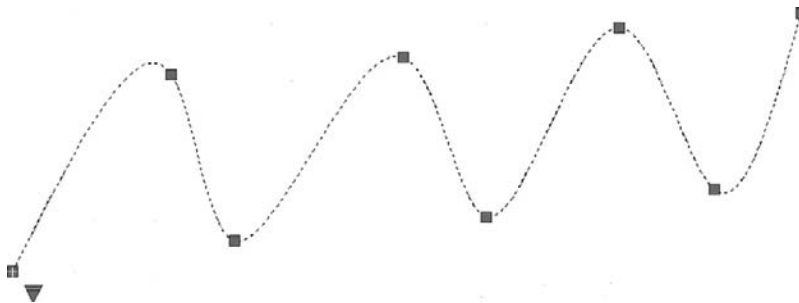

FIGURE 11.15
- Step 3.** Click on another point somewhere on the screen, in an up and down wave pattern, as seen in Figure 11.15.
- Step 4.** Click on a few more points in a similar wave pattern. AutoCAD keeps saying the same thing as in Step 3. Continue clicking several more times (refer again to Figure 11.15). When done, simply press Enter.
This is your basic “out of the box” spline. Notice how, as you click on points, AutoCAD fits a smooth curve that best approximates the path. Each grip in Figure 11.15 represents a click of the mouse, a control point. You can manipulate the positions of these grip points in the standard manner, with the spline following suit. This makes the spline a very flexible tool, adjustable to the exact demands of the designer. Try activating the grips and moving them around.